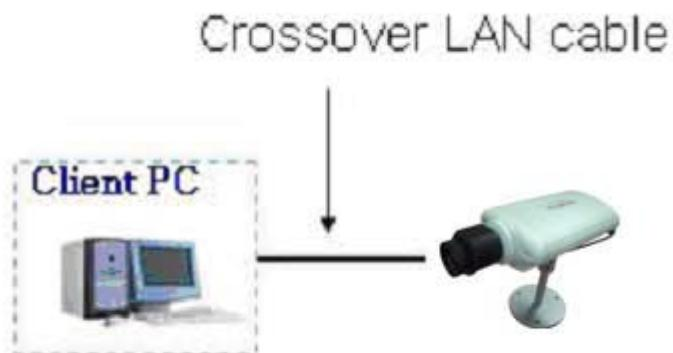

Figure 3-4. Direct connection using crossover LAN
2. Set up network parameters by running the "IP-Installer". (Refer to Figure 3-4).